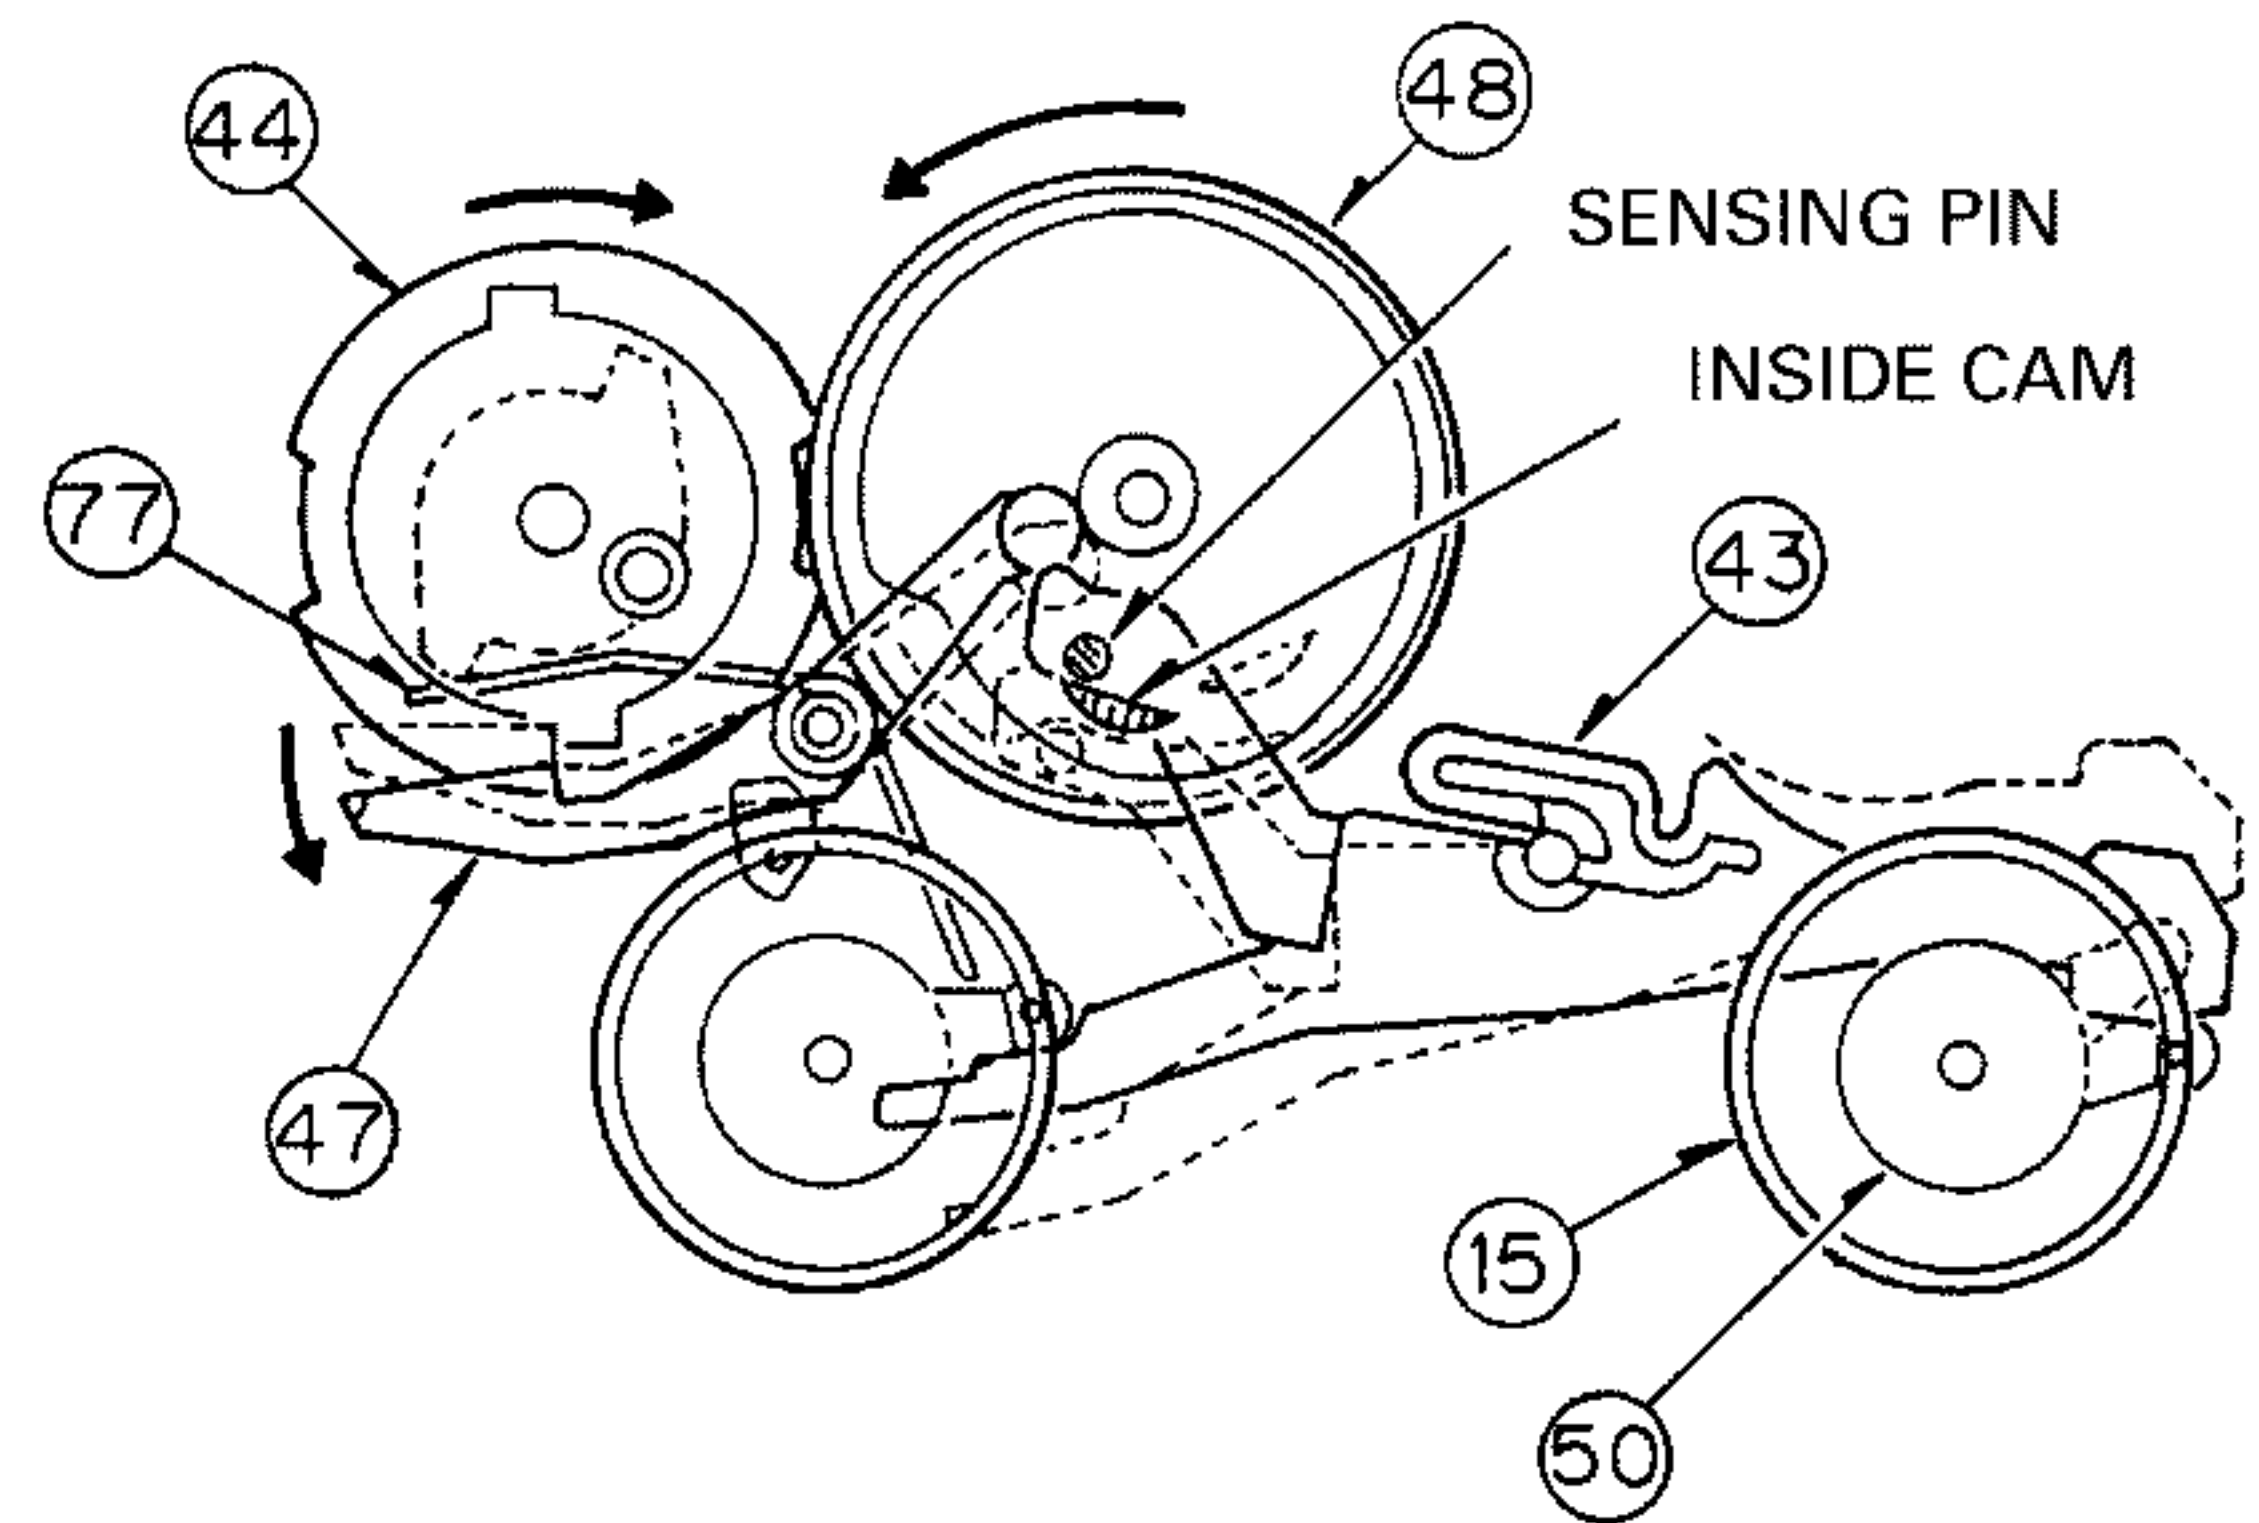

Fig. 4
- (6) The sensing pin of the Sensor Arm ④③ is pushed toward the fulcrum of the Detector Gear ④⑧ by the inside cam of the Detector Gear ④⑧. (Fig.4)
- (7) This movement unlocks the Gear Lock Arm ④⑦ from the Selector Gear ④④. The Selector Gear ④④ rushes toward the Detector Gear ④⑧ with the pressure of the Dash Spring ⑦⑦. When the Selector Gear ④④ gets engaged with the Detector Gear ④⑧, the Selector Gear ④④ starts rotating.